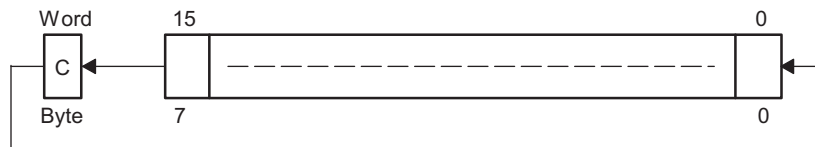

Figure 4-39. Destination Operand—Carry Left Shift
Description The destination operand is shifted left one position as shown in Figure 4-39. The carry bit (C) is shifted into the LSB, and the MSB is shifted into the carry bit (C).